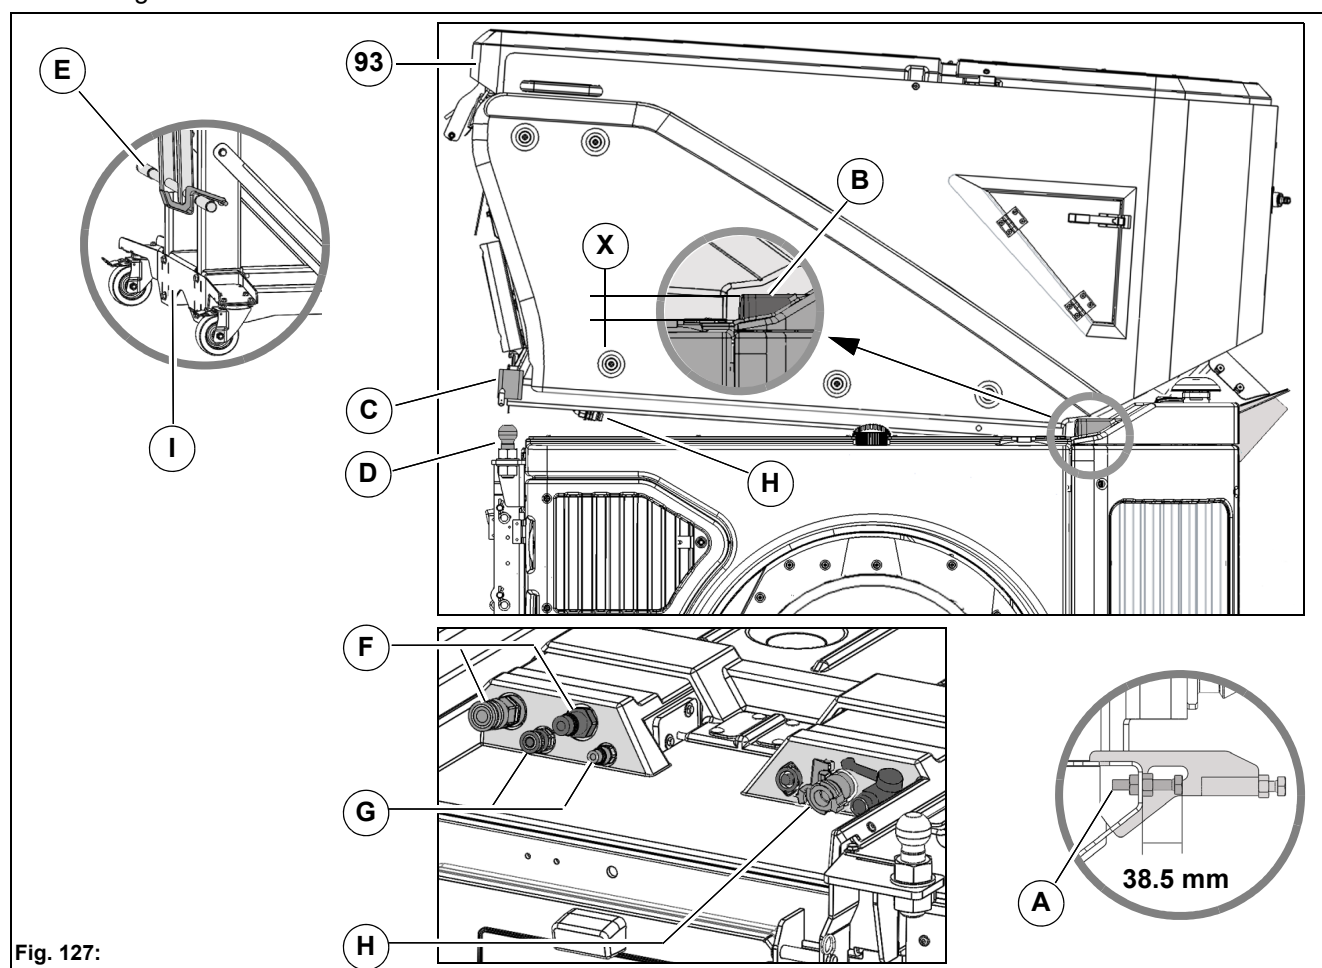

Fig. 127:
- Position the dirt hopper over the rear wagon and check the gap size **Fig. 127-X** with 5-10 mm. If necessary, correct with the screw **Fig. 127-A**.
- Push the rollers of the dirt hopper up into the pockets **Fig. 127-B**.
- The fixed bearings **Fig. 127-C** of the dirt hopper and the holders **Fig. 127-D** of the rear wagon must be in alignment.
10. Unlock the lever **Fig. 127-E** of the trolley **Fig. 127-I** (optional) and swing it into the upper position. Let the dirt hopper down slowly! Withdraw the trolley and close the lid.
- Lift system hydraulic cylinder – supply/return = **Fig. 127-F**
- Suction fan hydraulic motor – supply/return = **Fig. 127-G**
- Circulating water = **Fig. 127-H**